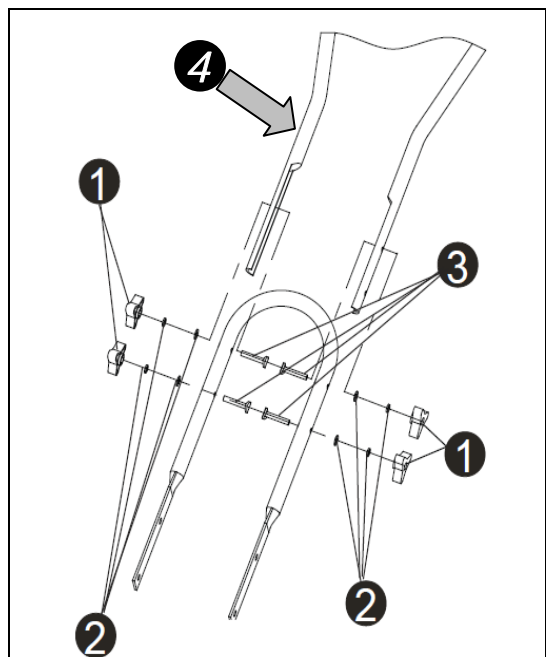

Fig.14
5. Place Empress Arm-rest ④(Fig.14) on the Ex-arm-rest, Insert four bolts ③(Fig.14) for each side in assembling threaded holes.
6. Start fastness knob nuts ①(Fig.14), washers and spring washers ②(Fig.14) on each bolt.